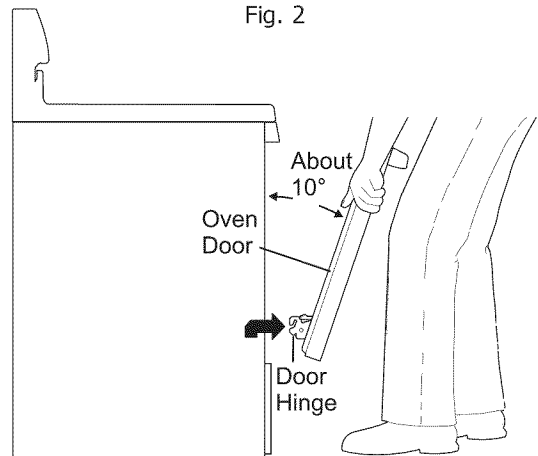

Fig. 3
- **To avoid possible injury** when removing or replacing the oven door, follow the instructions below **carefully** and always hold the oven door with both hands positioned **away from the door hinge area** (See Fig. 3).
3. Firmly grasp both sides of oven door along the door sides (Do not use the oven door handle - See Fig. 3).
1. Firmly grasp both sides of oven door along the door sides (Do not use the oven door handle - See Fig. 3).